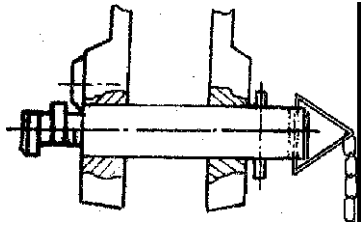

Fig2. Turn and push the fixed axis twice and let it enter the second tunnel
2.Anchor: Fixed axis is to be used to anchor the rope round the hoister. Connect the wire rope or the hanger with the fixed rope and tie the other end to the load, masts, etc. There is a relaxation-proofing tunnel on the fixed axis. When the fixed axis is inserted the hoister case, it must be turned twice to the second tunnel till it is clamped tightly (Fig.2)